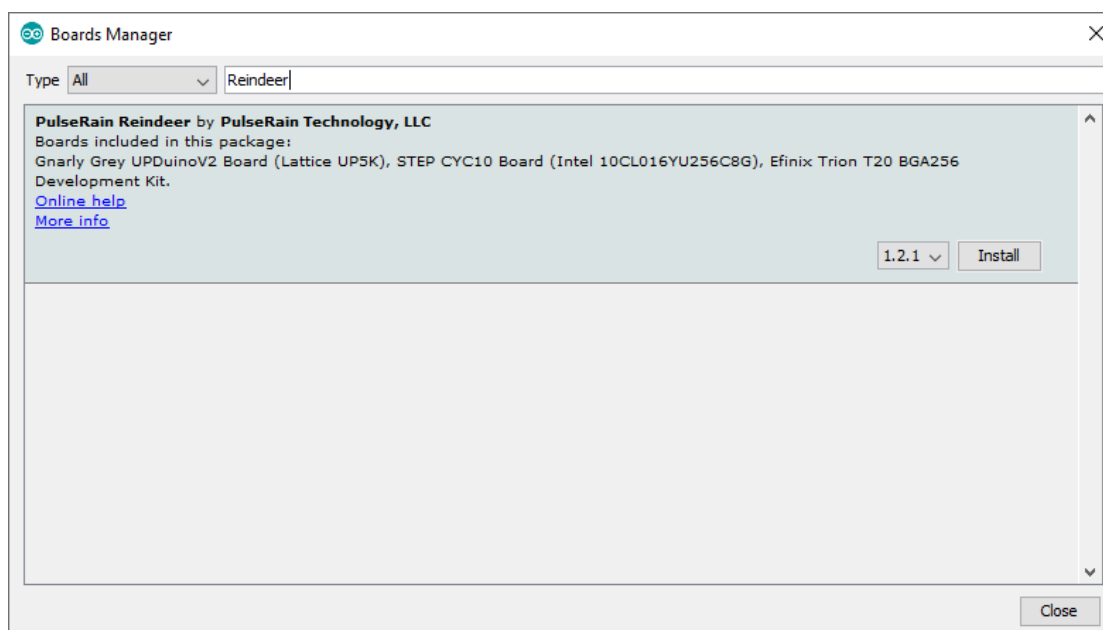

Figure 5-6 Arduino IDE, Boards Support Package for T20 Dev Kit
- 5) The "Boards Manager" will bring out a dialogue like the one shown in Figure 5-6. Type in "Reindeer" in the search box to find the board support package for the T20 Dev Kit. Click "Install" to download and install the board support package.